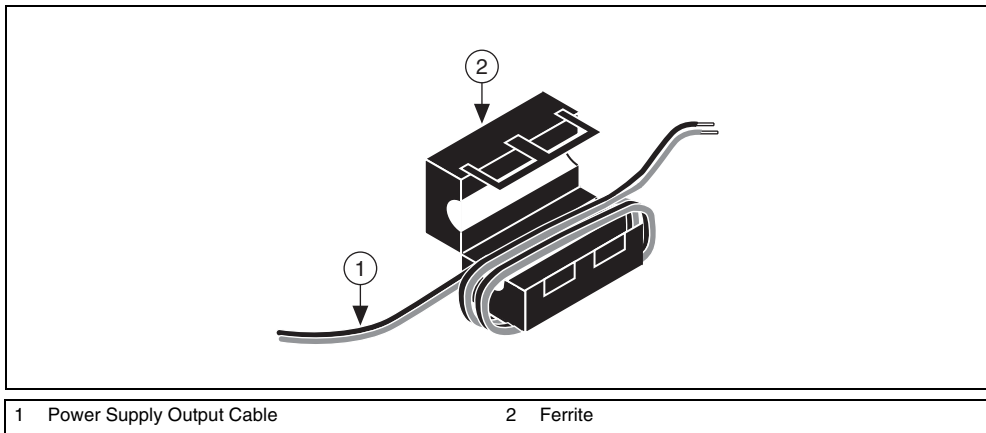

Figure 4. Installing a Ferrite Connector on the Power Supply Cable
3. (Optional) To suppress electromagnetic interference, install a ferrite on the power supply cable as close to the connection to the NI 8255R as possible. Wrap the power supply cable around the ferrite two times, as shown in Figures 4 and 5.